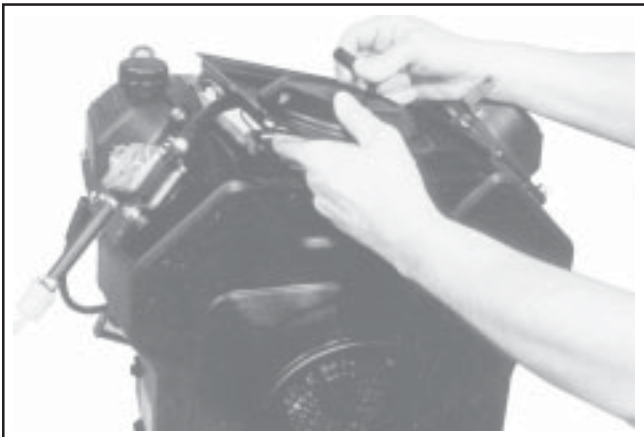

Figure 11-92. Pulling Breather Hose through Base.
2. Position a new gasket and the air cleaner base while carefully pulling the loose end of the rubber breather hose through the base until properly seated (collars sealed against each side of base). See Figure 11-92.